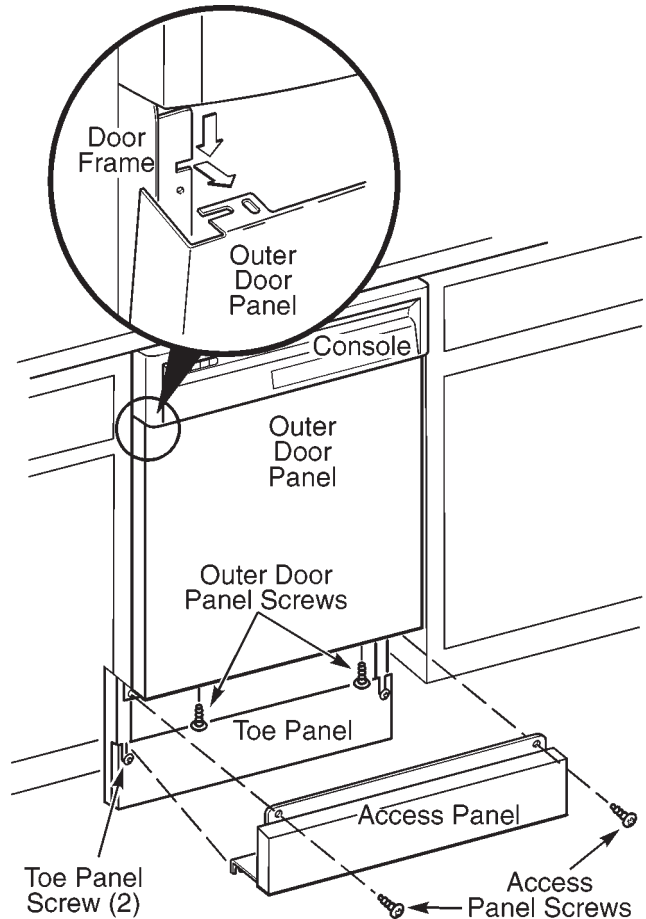

Fig. 2-11
1. Loosen but do not remove the two (2) toe panel screws below the access panel. Remove and set aside the two (2) screws above the access panel. (Fig. 2-11)
2. Remove the access panel assembly by sliding it upward to clear the loosened screws. (Fig. 2-11)
3. Remove the two (2) screws from the bottom of the outer door panel. (Fig. 2-11)
4. Pull the bottom of the outer door panel outward and slide it down approximately $\frac{1}{4}$ " to $\frac{1}{2}$ ". The panel will then be free for removal. (Fig. 2-11, inset)